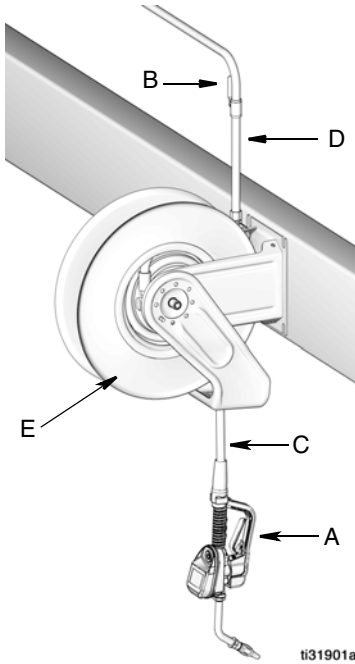

FIG. 6
The typical installation shown in FIG. 6 is only a guide. It is not a complete system design. Contact your Graco distributor for assistance in designing a system to suit your needs.
2. Close shut-off valve (B, FIG. 6, page 9).
1. Close the fluid shut-off valve (B, FIG. 6, page 9) at each dispense position.
4. Slowly open the shut-off valve (B) at the dispense position. Flush out a sufficient amount of oil to ensure that the entire system is clean; then close the valve.